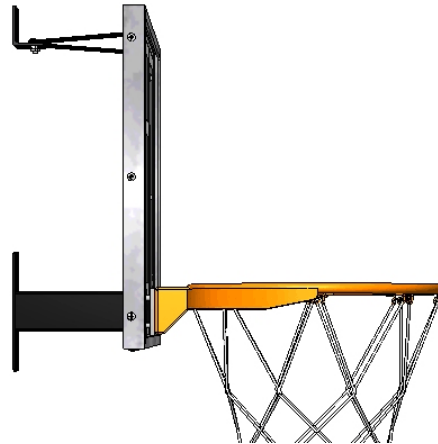

Figure 7
5. Install the Net. The knot (at the bottom of the net) should be located at the back. See Figure 7.